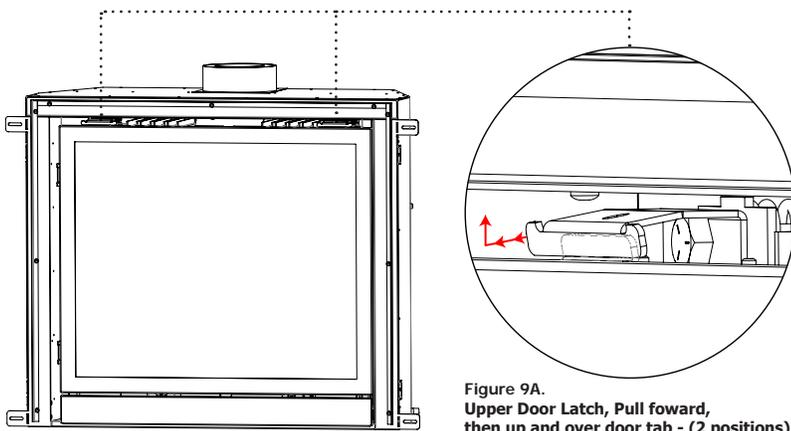

Figure 9A.
**Step 2.** To remove the glass door use your two index fingers to pull the spring latches up over the two door tabs. Fig.9A